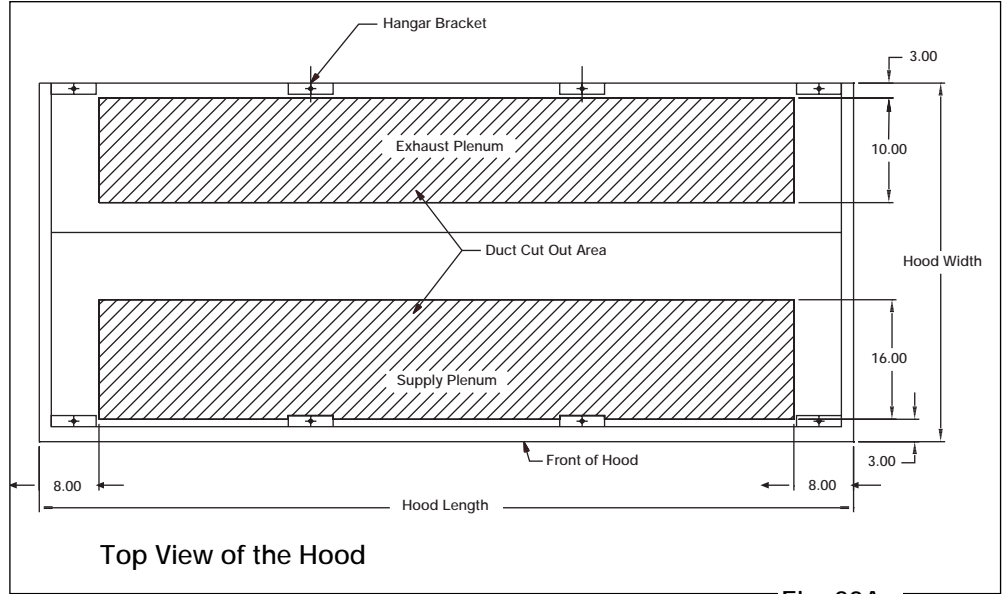

Fig. 20A
1. The exhaust duct connection needs to be located within 48 in. from the center of the hood length to the center of the duct connection. (see Fig. 20A)